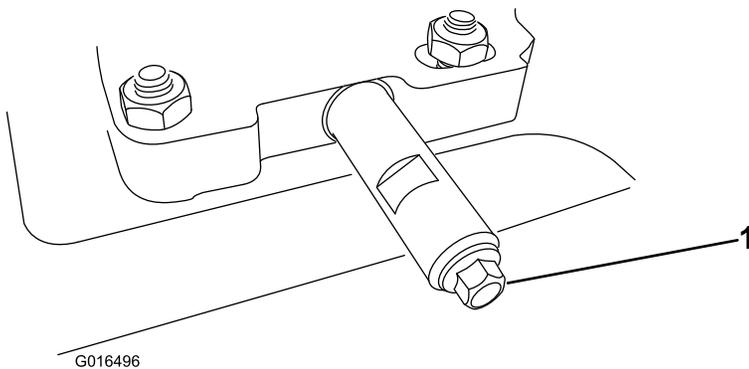

Figure 33
2. Clean the area around the oil-drain cap (Figure 33).